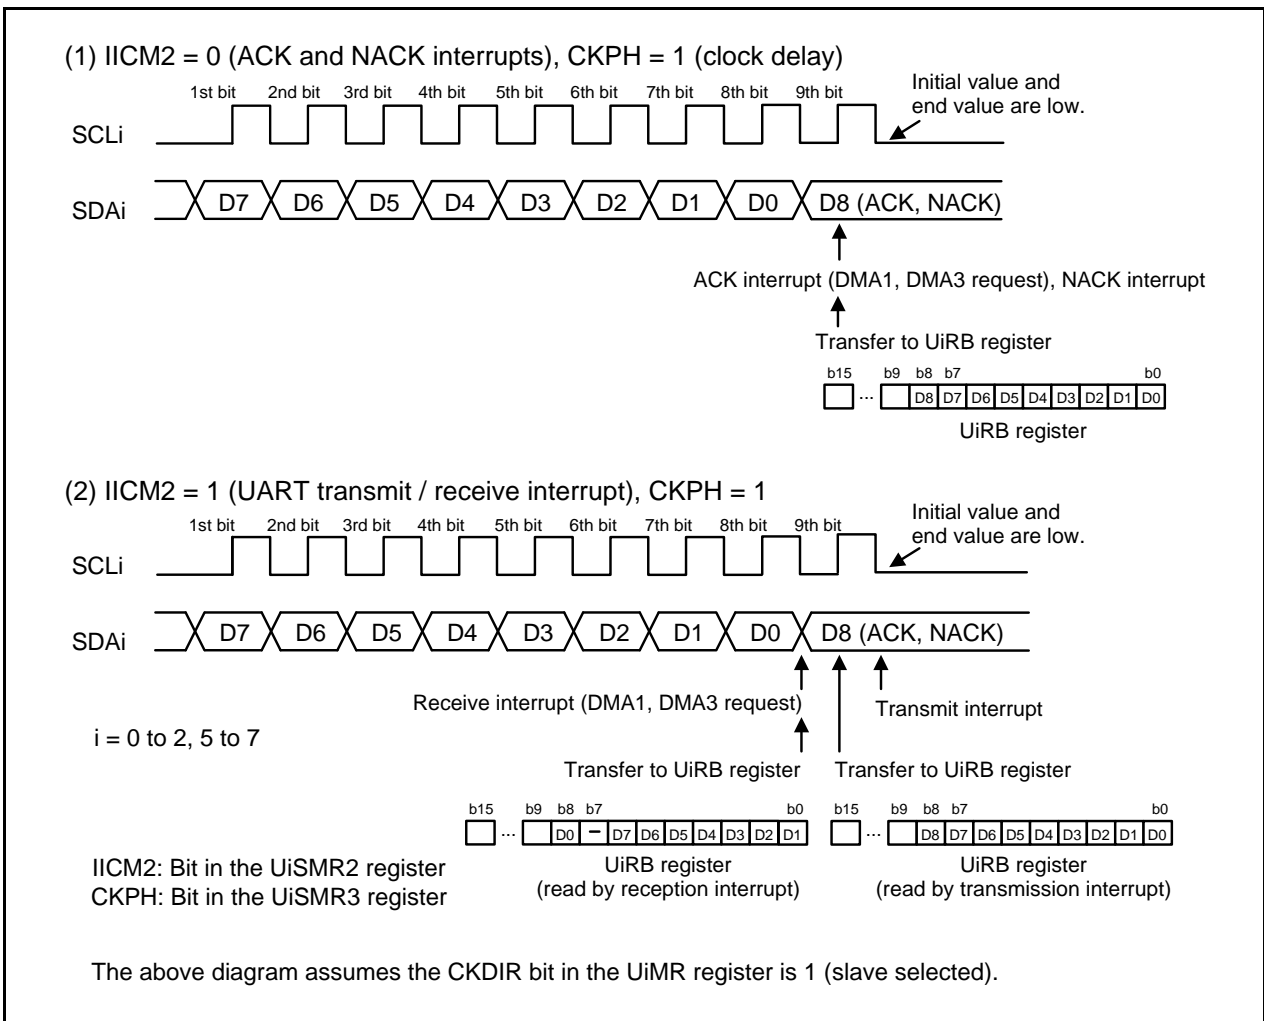

Figure 23.20 Transfer to UiRB Register and Interrupt Timing
In I²C mode, functions and timings vary depending on the IICM2 bit setting in the UiSMR2 register. Figure 23.20 shows Transfer to UiRB Register and Interrupt Timing. See Figure 23.20 for the timing of transferring data to the UiRB register, the bit position of the data stored in the UiRB register, types of interrupts, interrupt requests, and DMA request generation timing.
- See Figure 23.20 "Transfer to UiRB Register and Interrupt Timing".
Data transmission/reception in I²C mode uses the transmit/receive clock as shown in Figure 23.20 "Transfer to UiRB Register and Interrupt Timing". The clock speed increase makes it difficult to secure the required time for ACK generation and data transmit procedure. The I²C mode supports a function of wait-state insertion to secure this required time and a function of clock synchronization with a wait-state inserted by other devices.
Read the received data from the UiRB register. When the clock delay function is used, data transfer to the UiRB register occurs twice and each UiRB register value is different. Refer to Figure 23.20 “Transfer to UiRB Register and Interrupt Timing” for details.